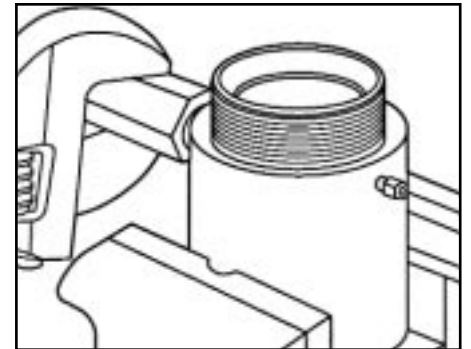

Figure 58
6. Clamp the fluid cylinder in a bench vise, and use an adjustable wrench to remove the discharge check valve from the cylinder. (Fig.58)